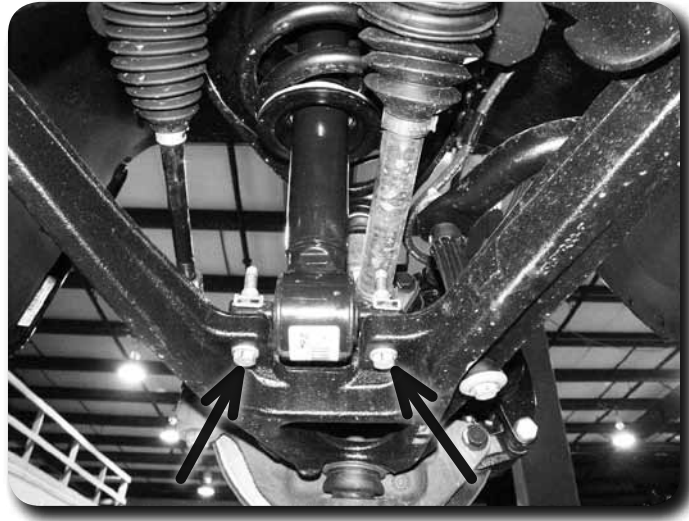

Figure 7
13. Support the lower control arm with a jack. Remove the lower strut mount bolts **Figure 7**. Save bolts.